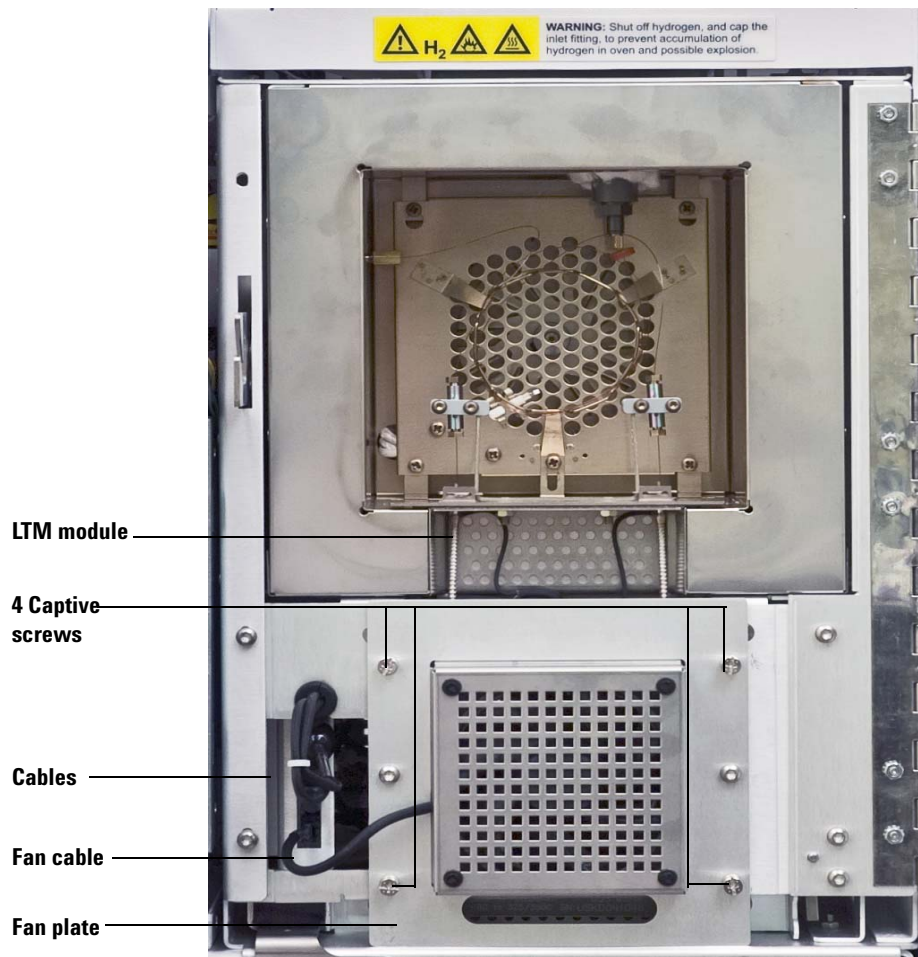

Figure 11 LTM module installed on the 5975T
- 6 Secure the module with the four captive screws around the outside of the fan plate. See Figure 11.